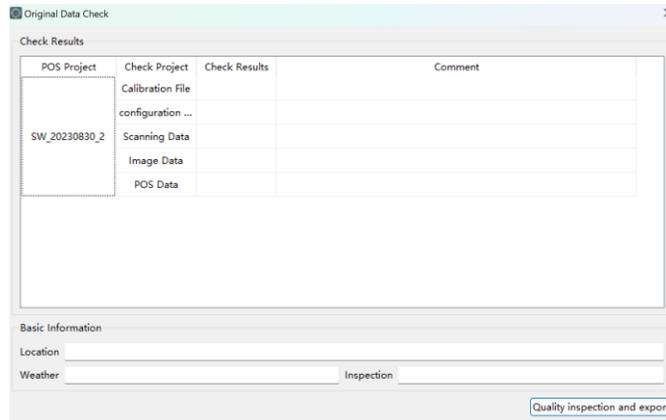

Figure 3-85 Original data check screen
1. Open the combine project in the project management panel and click <Solve>→<Quality Check>→<Original Data Check> to open the "Original Data Check" box (Figure 3-85).